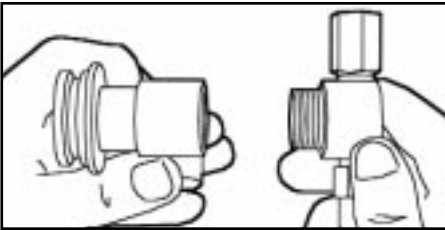

Figure 28
4. Unscrew the oil chamber from the fluid cylinder on the pump body assembly. (Fig.28)